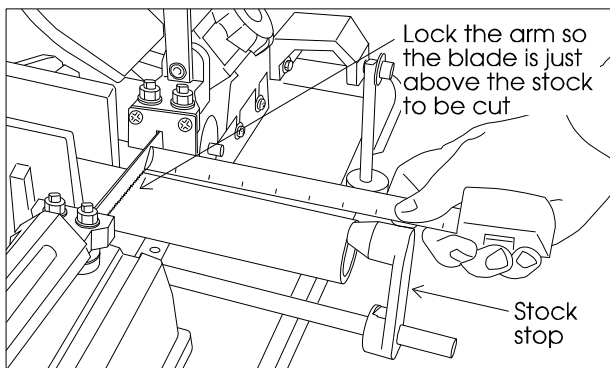

Figure 6: Using the stock stop
8. Measure the distance between the end of the workpiece and the blade to verify that you have set the stock stop at the correct distance. (See *Figure 6*.)